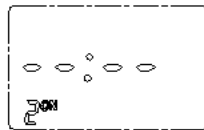

Figure11
4.2.3.4 Repeat the above steps to Complete all bell time settings, press the "R" key to elimination the Groups do not need , then LCD display "◦ ◦ ◦ ◦", As shown in Figure11, again press the "R" button can recall the setted.